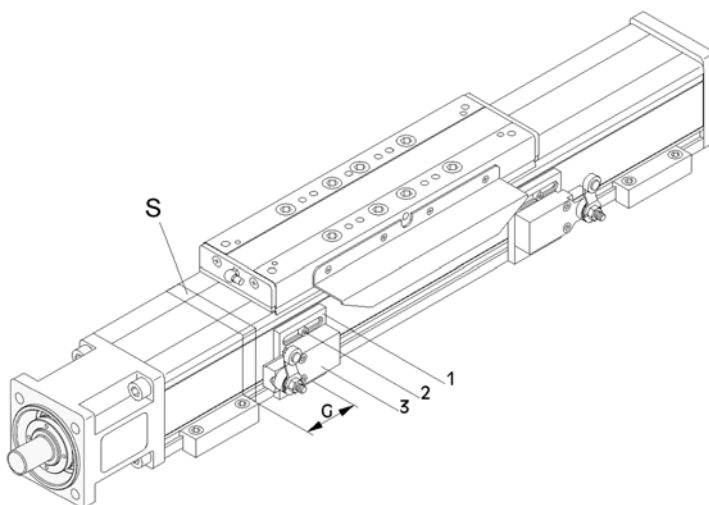

Fig 7: Adjustment of limit switches
1. **Fig 7:** Loosen the clamping screw (2) of the mounting plate (1).
2. Move the mounting plate with the limit switch (3) to the desired position.